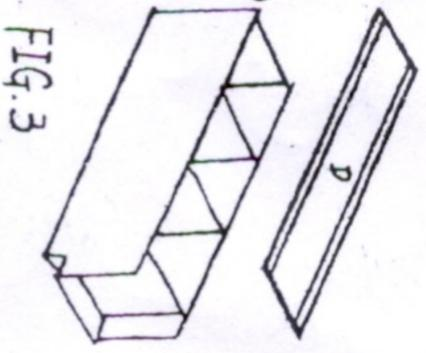

FIG. 3
STEP 3: Place Back Panel (D) on top of the unit with finished side facing inside. Align all connectors while making sure that cam screw in every assembly connectors are in fully opened position (make adjustment if necessary) - Fig. 3